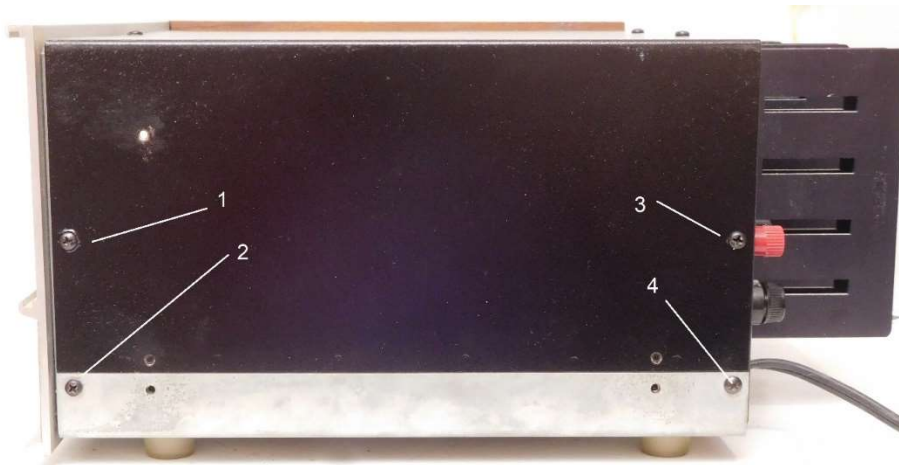

Figure 2-Locations of the sheet metal screws that hold the side of the cover
3. Refer back to Figure 2 to re-attach the cover. Don't forget the 3 screws that go into the top of the cover.